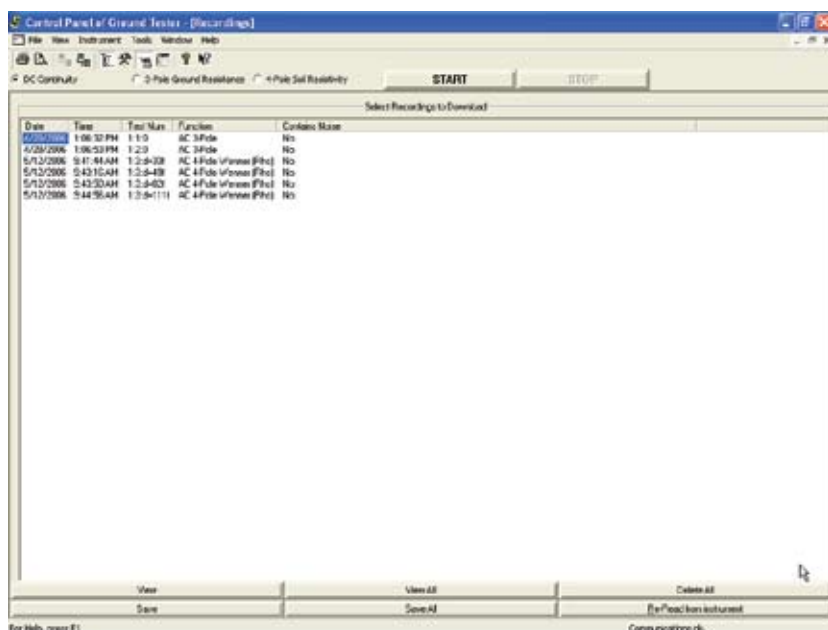

Figure 5-10a
1. Select the data you want to download by clicking on the file name (see Figure 5-10a).